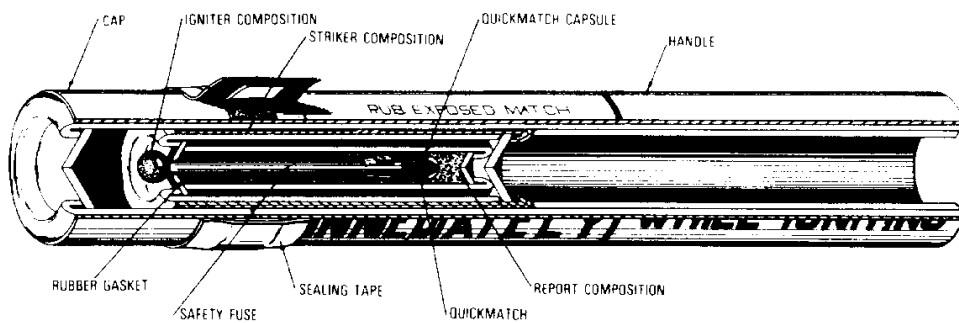

Figure 5-5      Sectional Diagram of the Thunderflash C1A1
2. The component parts are illustrated in Figure 5-5.